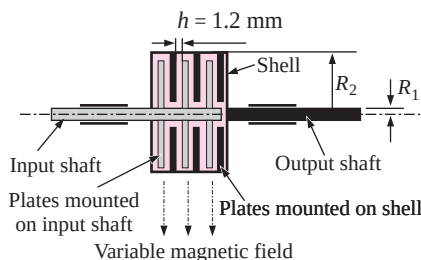

FIGURE P2-49
2-50 The viscosity of some fluids, called magnetorheological (MR) fluids, changes when a magnetic field is applied. Such fluids involve micron-sized magnetizable particles suspended in an appropriate carrier liquid, and are suitable for use in controllable hydraulic clutches. See Fig. P2-49. The MR fluids can have much higher viscosities than the ER fluids, and they often exhibit shear-thinning behavior in which the viscosity of the fluid decreases as the applied shear force increases. This behavior is also known as pseudoplastic behavior, and can be successfully represented by Herschel–Bulkley constitutive model expressed as $\tau = \tau_y + K(du/dy)^m$. Here τ is the shear stress applied, τ_y is the yield stress, K is the consistency index, and m is the power index. For a Herschel–Bulkley fluid with $\tau_y = 900$ Pa, $K = 58$ Pa $\cdot$ s^{*m*}, and $m = 0.82$, (a) find a relationship for the torque transmitted by an MR clutch for N plates attached to the input shaft when the input shaft is rotating at an angular speed of ω while the output shaft is stationary and (b) calculate the torque transmitted by such a clutch with $N = 11$ plates for $R_1 = 50$ mm, $R_2 = 200$ mm, $\dot{n} = 2400$ rpm, and $h = 1.2$ mm.